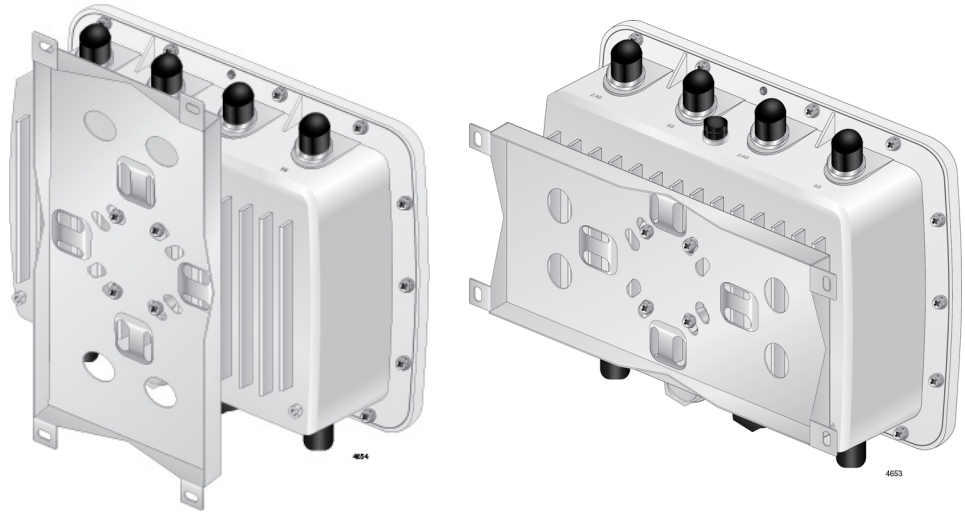

Figure 12. Two Orientations of the Mounting Base
- ❑ The access point must be installed the front panel down as shown in Figure 12.
- ❑ The mounting base can be in a vertical or horizontal position. See Figure 12 on page 37.
The mounting base can be in a vertical or horizontal position. see Figure 12.